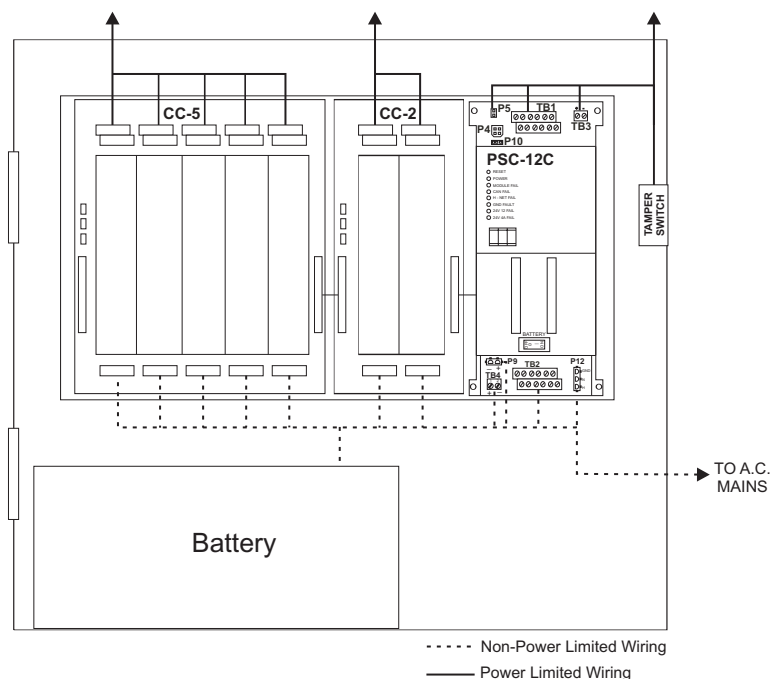

Figure 7
The PSC-12C has removable terminal blocks and connectors at the top and bottom of the module. The terminals and connectors at the top of the PSC-12C are power limited. The terminals and connectors at the bottom of the PSC-12C are non-power limited. (Refer to Figure 7.)
1. Using the 0.5m long wire assembly, connect the two batteries together, as shown in Figure 7. Secure each end of the assembly to the battery with a M5 screw and lock nut.